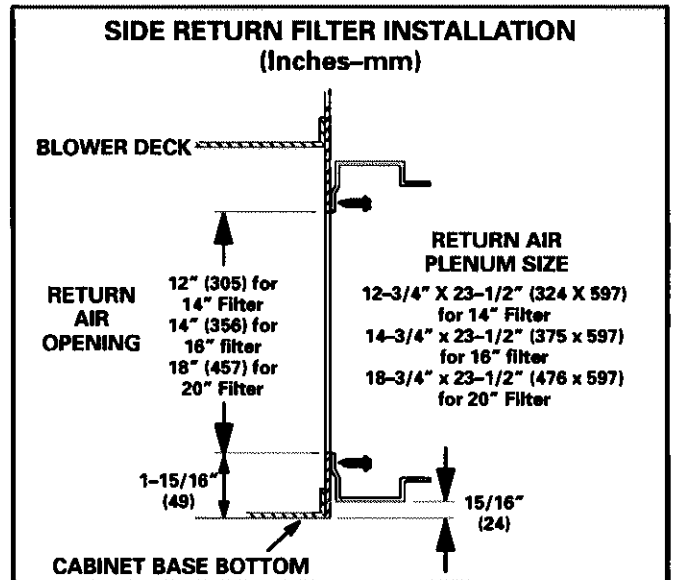

FIGURE 10
- 2- Screw filter rack into place with the six self drill, self tap screws provided. See figure 10.